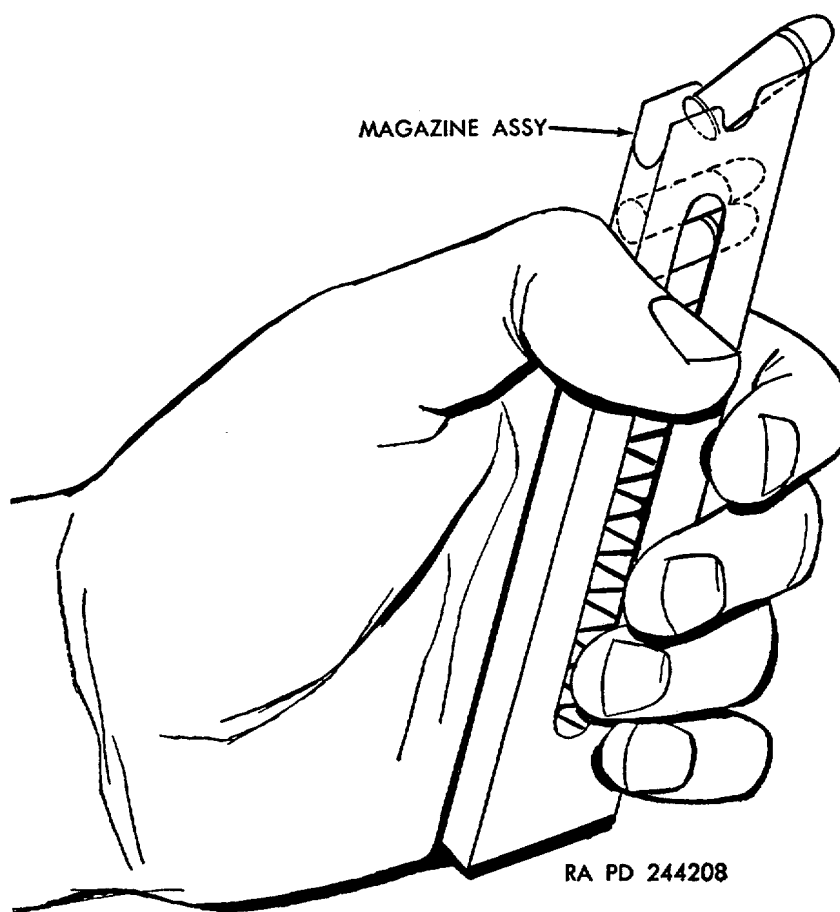

Figure 16. Inserting cartridge into magazine assembly (high standard).
c. Magazine Assembly. The magazine assembly (fig. 16) has a 10-cartridge capacity. The spring-loaded magazine follower is depressed by means of the magazine button in order to insert a cartridge. The cartridges are inserted, rim end first, through the front of the magazine lips (fig. 16).